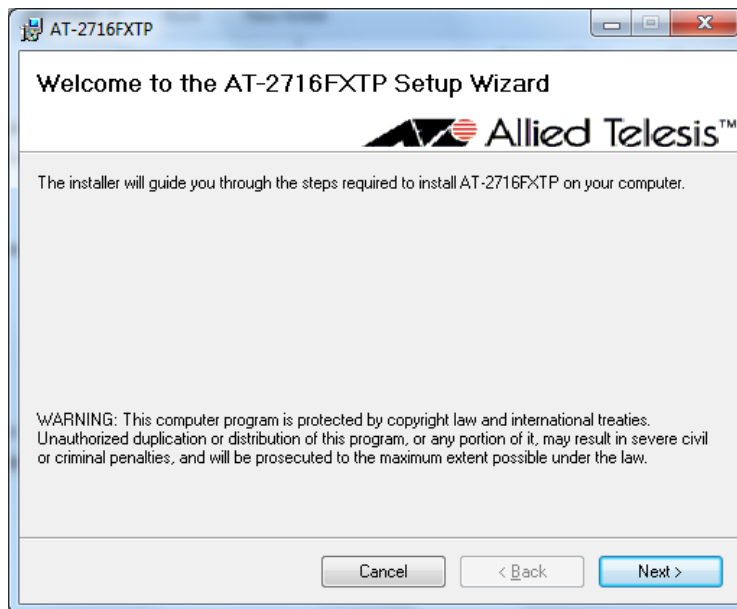

Figure 28. Welcome to the AT-2716POE AT-Mux Setup Wizard Window
1. Double click Setup.exe for 32 bit operating system or Setup64.exe for 64 bit operating system to start the AT-2716POE AT-Mux Setup Wizard. See Figure 28.